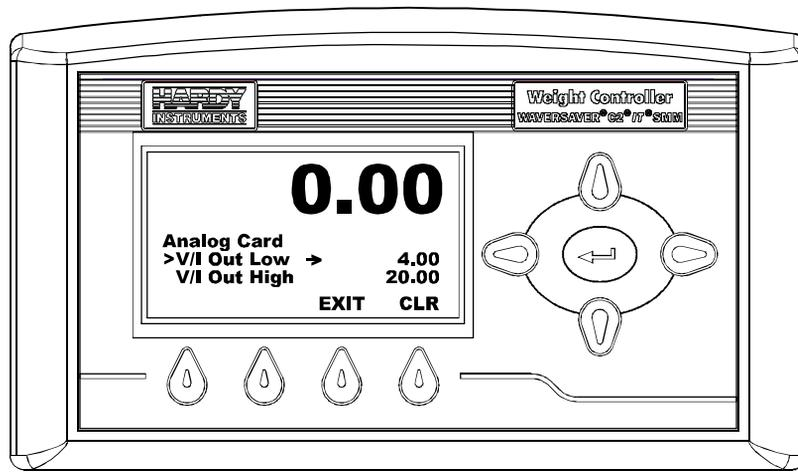

FIG. 158 ANALOG CARD/SELECTING V/I OUT LOW
Step 1. Press the Down arrow button until the cursor is in front of V/I Out Low. (See Fig. 158)